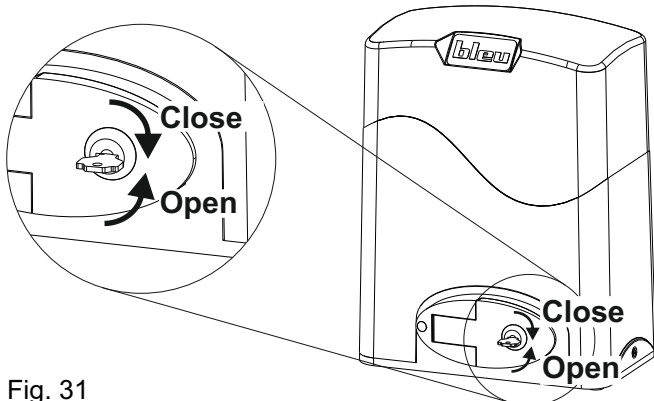

Fig. 31
- Insert the release key and turn it anticlockwise by 90 ° (Fig. 31)